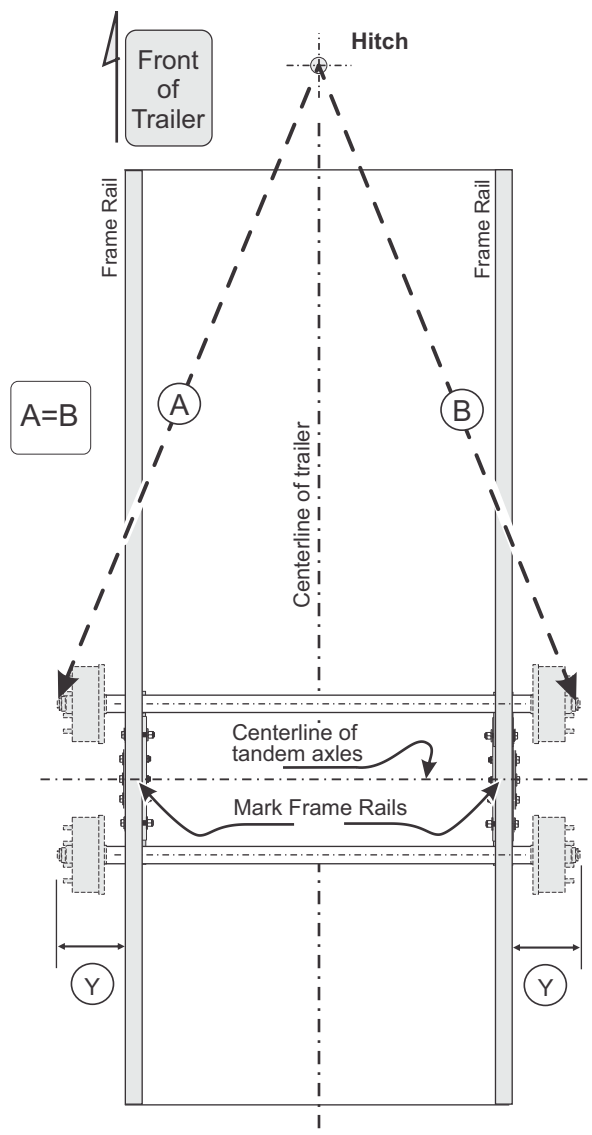

Fig. 2 Axle Alignment (View from the top)
1. Mark frame rails where center of tandem (centerline of tandem axles) should cross frame (fig. 2).
5. To align axle, locate the left hand and right hand side hangers on frame rails, opposite to each other. Move hangers along frame rail until center of spindles line up with marks on the frame rails, viewing from top (fig. 2). Clamp hangers to frame. Measure and compare distances "A" and "B". Reposition hangers until the difference between "A" and "B" measurements is less than 1/8".